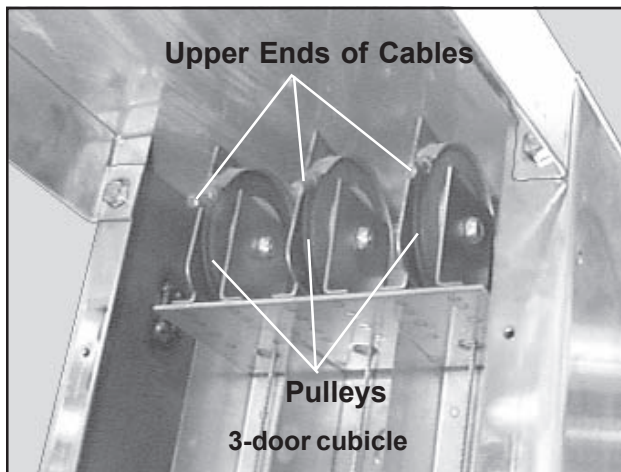

Figure 11. Pulleys and Upper Cable Ends
4. With a vise grips, pull down on the upper end of each counterweight cable (Figure 11) to help straighten the cable.